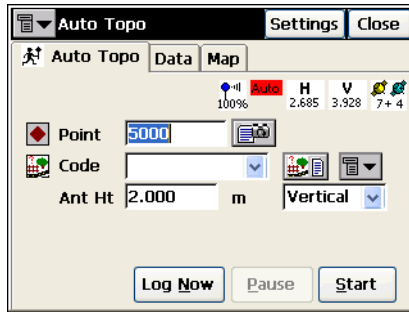

Figure 6-15. Auto Topo
1. Select **Survey** ▶ **Auto Topo**. On the *Auto Topo* screen, enter the point name, select the Code if necessary and insert the Antenna height and antenna type (Figure 6-15).